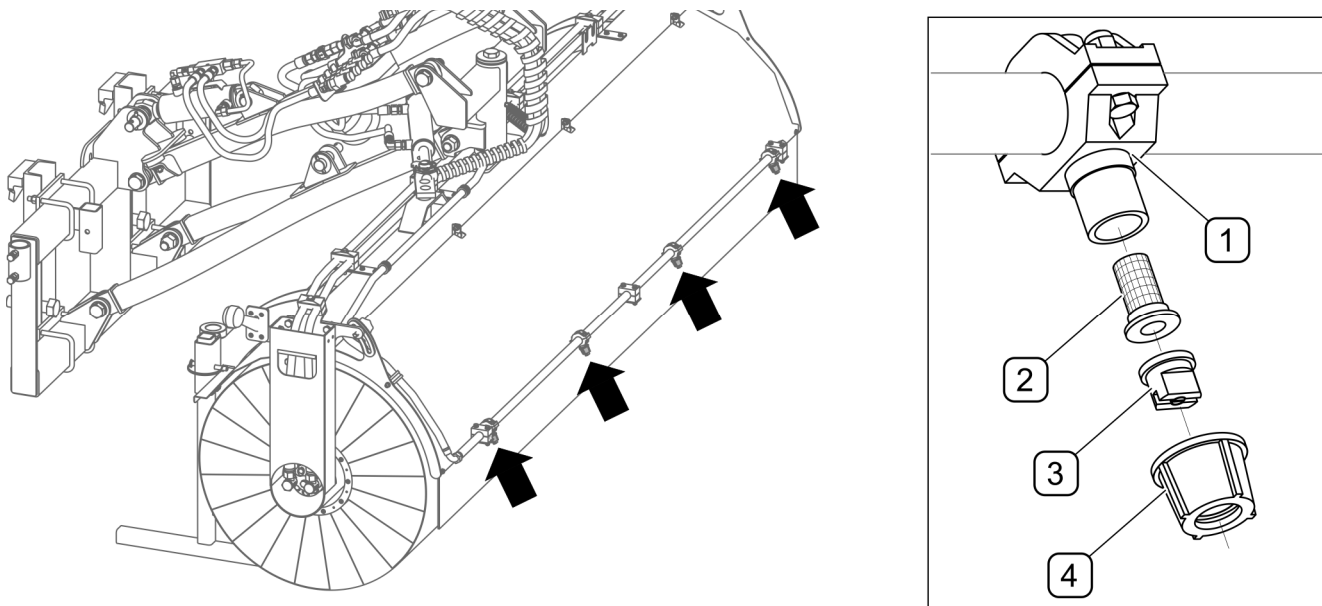

FIG. 5.4 Filters of sprinklers
(1) - 30A UNIVAL fuse ; (2) - cover; (3) - housing
Periodically confirm that sprinklers are not blocked and filters are clean in ZM-S25U sweepers that are optionally equipped with sprinkler system (FIG. 5.4). There is a strainer (2) in each of four sprinklers. In order to clean the strainer, dismantle nut (4) with sprinkler (3). Rinse the strainer (2) or blow it with compressed air. Confirm that sprinkler (3) is not blocked. Check technical condition of sprinklers, if necessary replace. The list of sprinkler elements TAB. 5.4